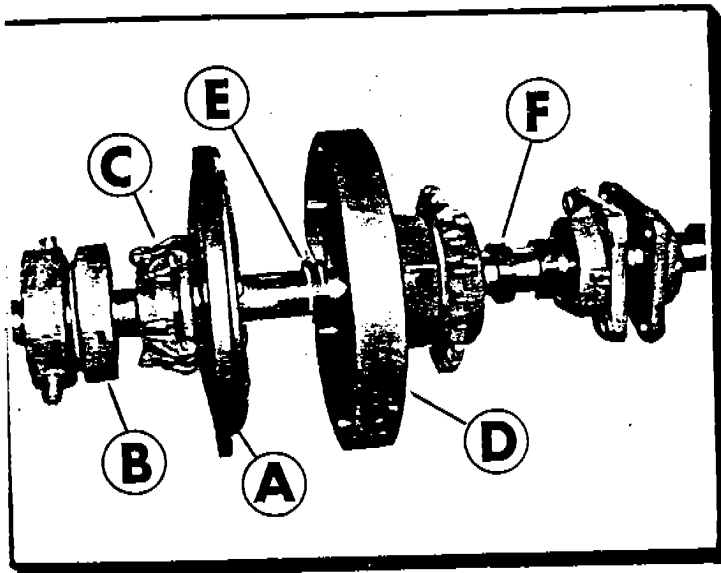
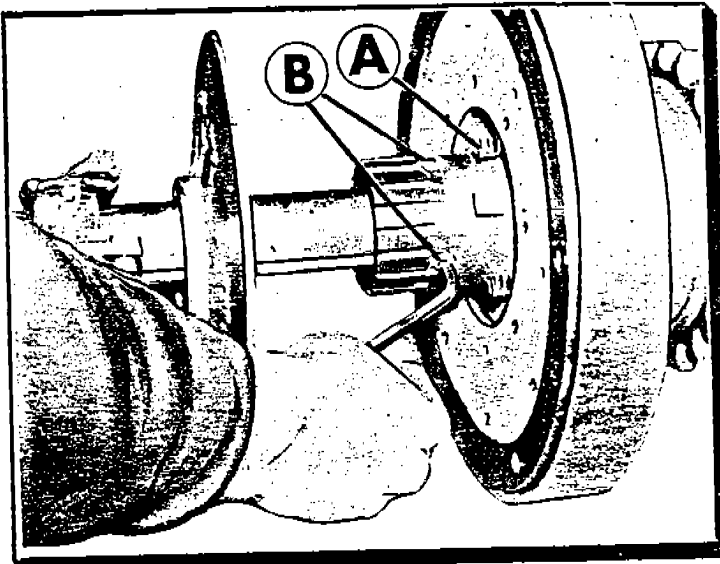

FIG. 1
FIG. 2
The alignment of this sprocket is accomplished by moving the clutch on the countershaft. To do this, it is necessary to loosen the set screws which secure the clutch body (A) Fig. 1 to the countershaft. First, slide the shifter assembly (B) Fig. 1 away from the clutch body and remove the finger assembly (C) by unscrewing it from the clutch body. Next, loosen the set screws, see Fig. 2, and slide the clutch body away from the clutch bowl (D) so the inside locking collar (E) Fig. 1 may be removed. This inside collar was not used on some of the early models. The inner and outer collars (E) and (F) Fig. 1 are removed by releasing the set screws and rotating them with a spanner wrench, or with a punch inserted in the hole in the collar.